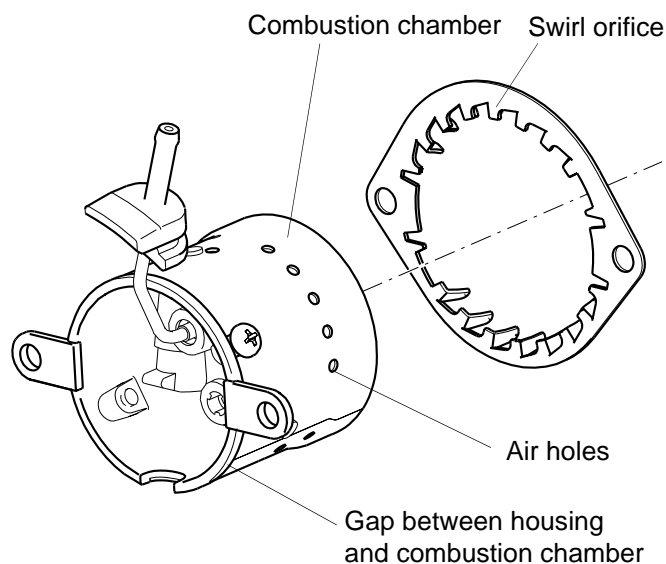

Fig. 505 Visual check, complete burner
- The combustion chamber (Fig. 505) should not be damaged (e.g. dented). A dented combustion chamber can lead to poor combustion or carbon build-up in the heater.
- The air holes (Fig. 505) in the combustion chamber must not be blocked up by carbon deposits. If the air holes are blocked up by carbon deposits, this may result in failure of combustion to start or to run effectively.
- The screw connection of the housing and combustion chamber (Fig. 505) must be tight.
- The housing and the combustion chamber (Fig. 505) must be firmly connected together and there must not be any play (check by moving the fuel pipe slightly).
- The distance (gap) between the edge of the housing and the top edge of the combustion chamber (Fig. 505) does not have to be even all the way around.